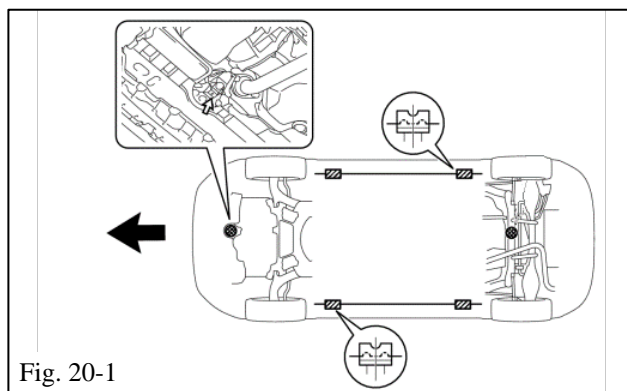

Fig. 20-1
- Raise the vehicle overhead and place a tall jack stand under front sub-frame of vehicle for support (Fig. 20-1).